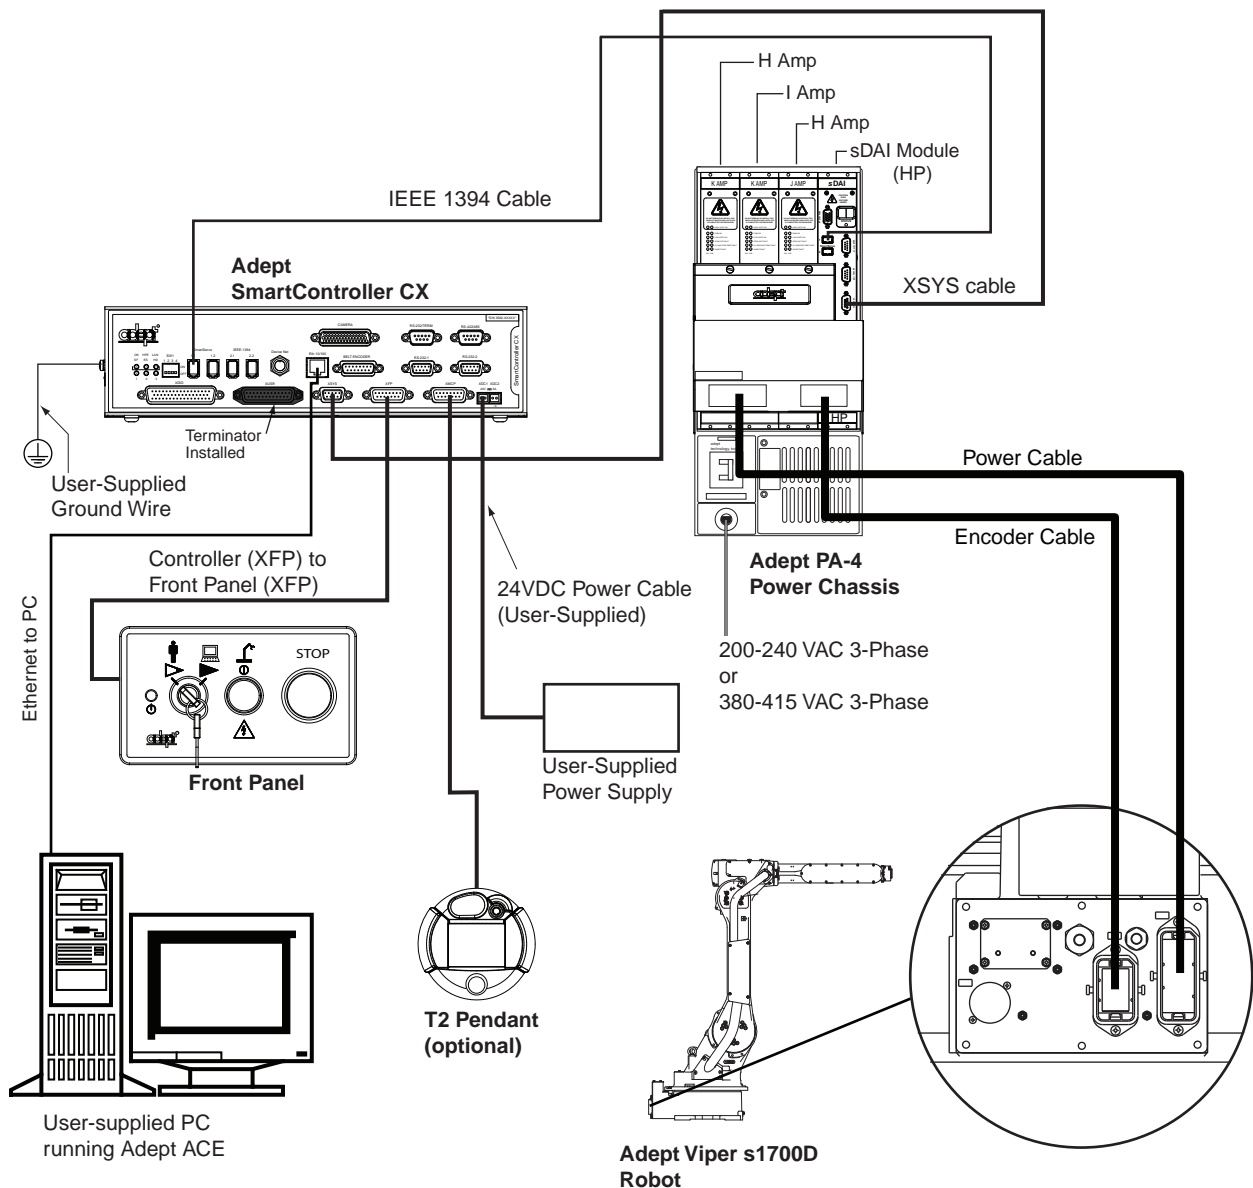

Figure 3-1. System Cable Diagram for Adept Viper s1700D Robot
3. Install one end of the IEEE 1394 cable into the SmartServo port 1.1 connector on the SmartController, and install the other end into the SmartServo port 1 connector on the sDAI module in the PA-4. See **Figure 3-1 on page 39** and **Figure 3-2 on page 42**. Make sure the plug is oriented correctly to the connector.